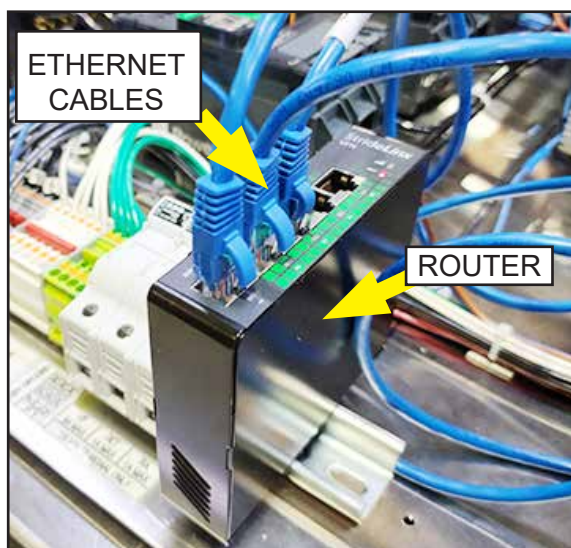

Fig. 1 - Router with ethernet cables
1. Champion supplies a Stridelinx router, internal RJ45 ethernet cables and a RJ45 ethernet port. Components are located in the top-mounted main control cabinet (Figs. 1, 2, 3, and 4).